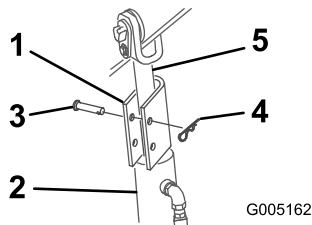

Figure 22
4. Position a cylinder lock over each lift-cylinder rod (Figure 22).
5. Secure each cylinder lock with a clevis pin and cotter pin (Figure 22).